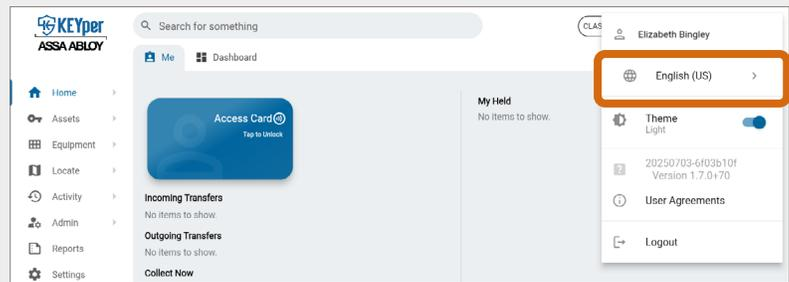

Fig. 135 – Select the current language from the Profile menu
2. Select **Profile** , then select the current language, as shown in Fig. 135.